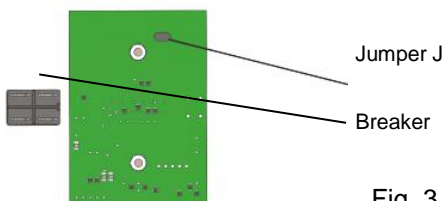

Fig. 3 Indicator board
- Remove the jumper J located on the indicator board (Fig. 3).